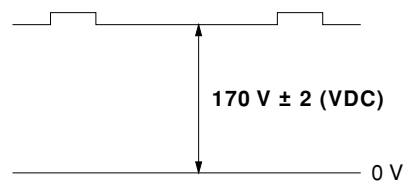

**Fig. 5-4**
- (1) Receive dot/hatch pattern DRC-MF, DRC1250, DYNAMIC.
- (2) Turn FOCUS VR fully counter-clockwise.
- (3) Confirm the dot shape at the screen center. (Fig. 5-4)
- (4) Resume FOCUS VR.